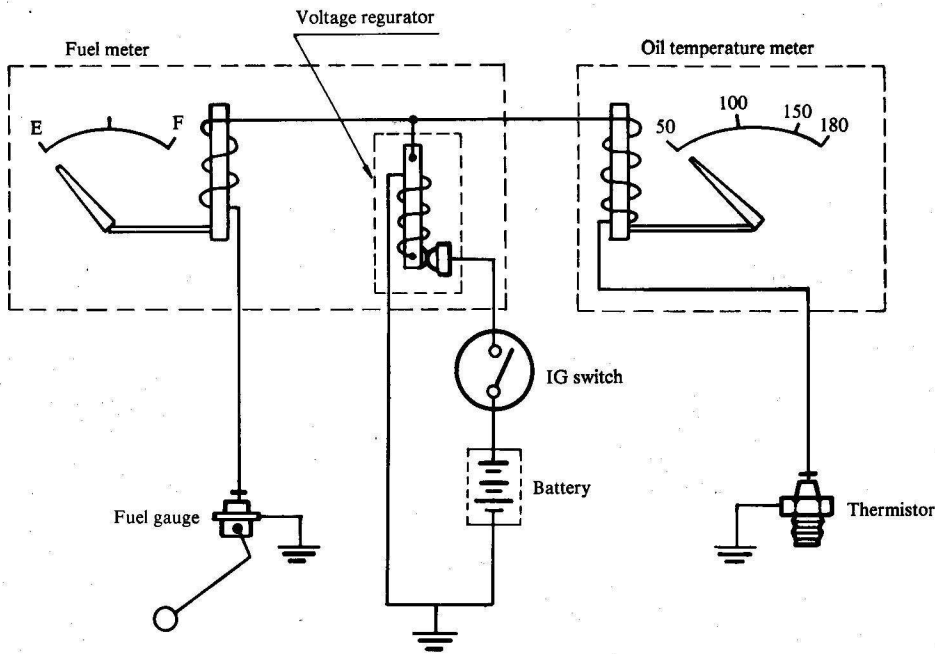

Fig. 30.
- As shown in Fig. 30, the oil meter is connected in parallel with the same fuel meter used in the GS1000.